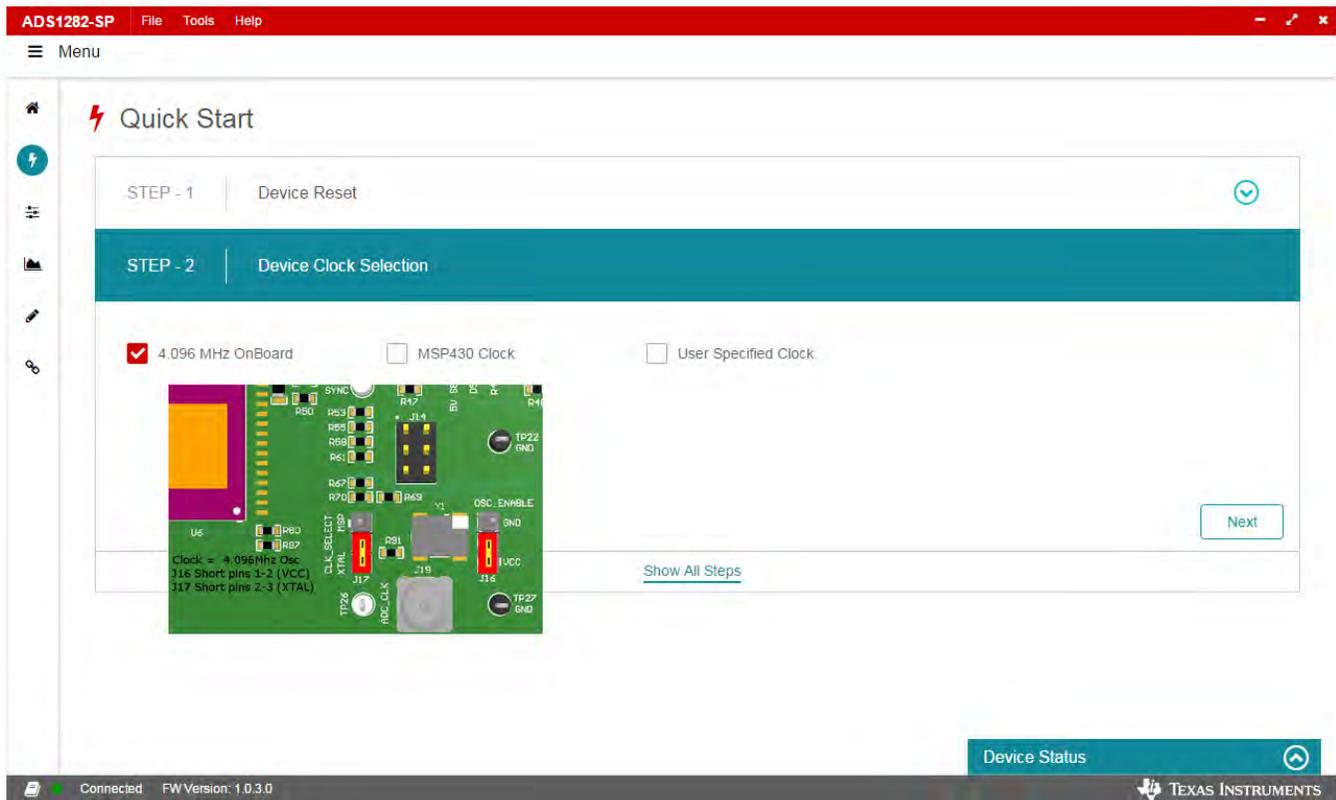

Figure 20. ADS1282-SP GUI Quick Start STEP-2
**STEP-2** of the **Quick Start** page is **Device Clock Selection** as shown in Figure 20. There are three options for configuring the clock (1) **4.096 MHz On Board XTAL** (default), (2) **MSP430 Clock**, and (3) **User Specified Clock**.
Figure 20 shows the default clock configuration which uses a on-board 4.096-MHz crystal oscillator. By hovering over the picture with the mouse, the graphic is enlarged showing the jumper locations needed for the selected clock configuration.